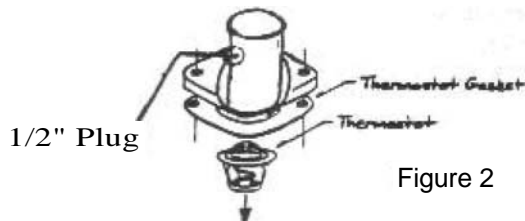
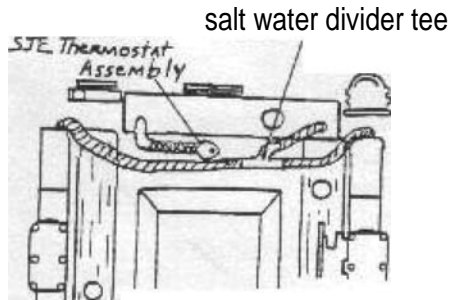

Figure 2
Figure 3
5. Remove thermostat housing assembly from engine by taking out the (2) 9/16" head bolts at back end of housing. Carefully remove plastic retainer and thermostat, high water temperature alarm sender and water temperature sender from housing. These will be used later. Discard original thermostat housing, lifting strap and bolts. You will replace these with new parts from your SJE kit.
6. Remove the 1/2" pipe plug from the intake manifold. This is located slightly in front and to the left of the thermostat, next to the left valve cover. (Figure 3). Cross Assembly: Thread 1/2" x 3/8" bushing and 3/8" x 1-1/2" nipple, Cross and 3/8" NPT to 5/8" hose 90° fitting together for by-pass hose. Retrieve from your SJE kit the new thermostat housing assembly (Figure 2). Install thermostat with pointed end up. Install gasket and bolt down, using (2) 3/8" x 1-1/4" bolts and lock washers provided. Thread temperature sending units into the threaded holes in cross. Tighten both senders firmly, using caution not to over tighten. We recommend using pipe thread sealant when installing threaded fittings. Always use a back-up wrench on threaded NPT female fittings i.e., temperature sending units and zinc anode
7. Remove the 1/2" pipe plug located on the left hand side of the fresh water pump, just above the large 1-3/4" suction hose. Thread (1) 1/2" pipe to 5/8" hose straight fitting into this hole. Tighten all fittings snugly. Using the 13" piece of 5/8" hose and (2) #8 hose clamps, plumb these two fittings together. For the cleanest installation, this hose length should be trimmed to suit. This is your fresh water by-pass and can also be used for a heater. For a heater plumb the bottom of the heater to the by-pass outlet next to the thermostat assembly, the top of the heater to the outlet at the water pump.
8. Clean thermostat housing gasket surface on the intake manifold. Insert original thermostat, spring end down (Figure 2). Position new gasket supplied in your SJE kit between thermostat and thermostat housing. Secure thermostat housing with the (2) 3/8" x 1-1/4" bolts and lock washers. Tighten the two bolts firmly and evenly.
10. Remove top bolt under belt tightening pulley. Install LH heat exchanger bracket #MC-319-5LH using (3) SPACER WASHERS under bracket with washer and lock washer. Tighten bracket bolt firmly.
11. (2) 1" hoses that were connected to the original thermostat housing now should be connected to the salt water divider tee. Add 1-1/4" x 7" hose and clamp onto tee.
12. Using the 90 degree 1-1/2" hose elbow and (2) #24 hose clamps provided in your kit, connect the thermostat assembly to the heat exchanger. Slip the hose clamps loosely over the hose first, then slide the hose onto the thermostat assembly. The other end of the hose is connected to the 1-1/2" hose barb on the back, right hand side of the heat exchanger. This can be attached as you slowly set the heat exchanger tank down on its brackets. Connect all hoses. On some engines, the lifting gears bracket may have to be bent slightly back.